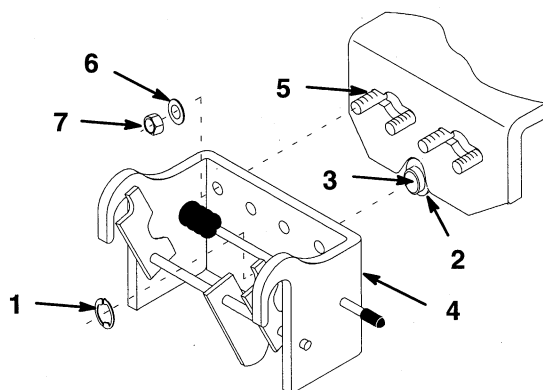

**Figure 5**
7. Install discharge chute rotator assembly into slot in housing with 5/16-18 x 1 carriage bolt (head to top), washer and lock nut (Fig. 5).